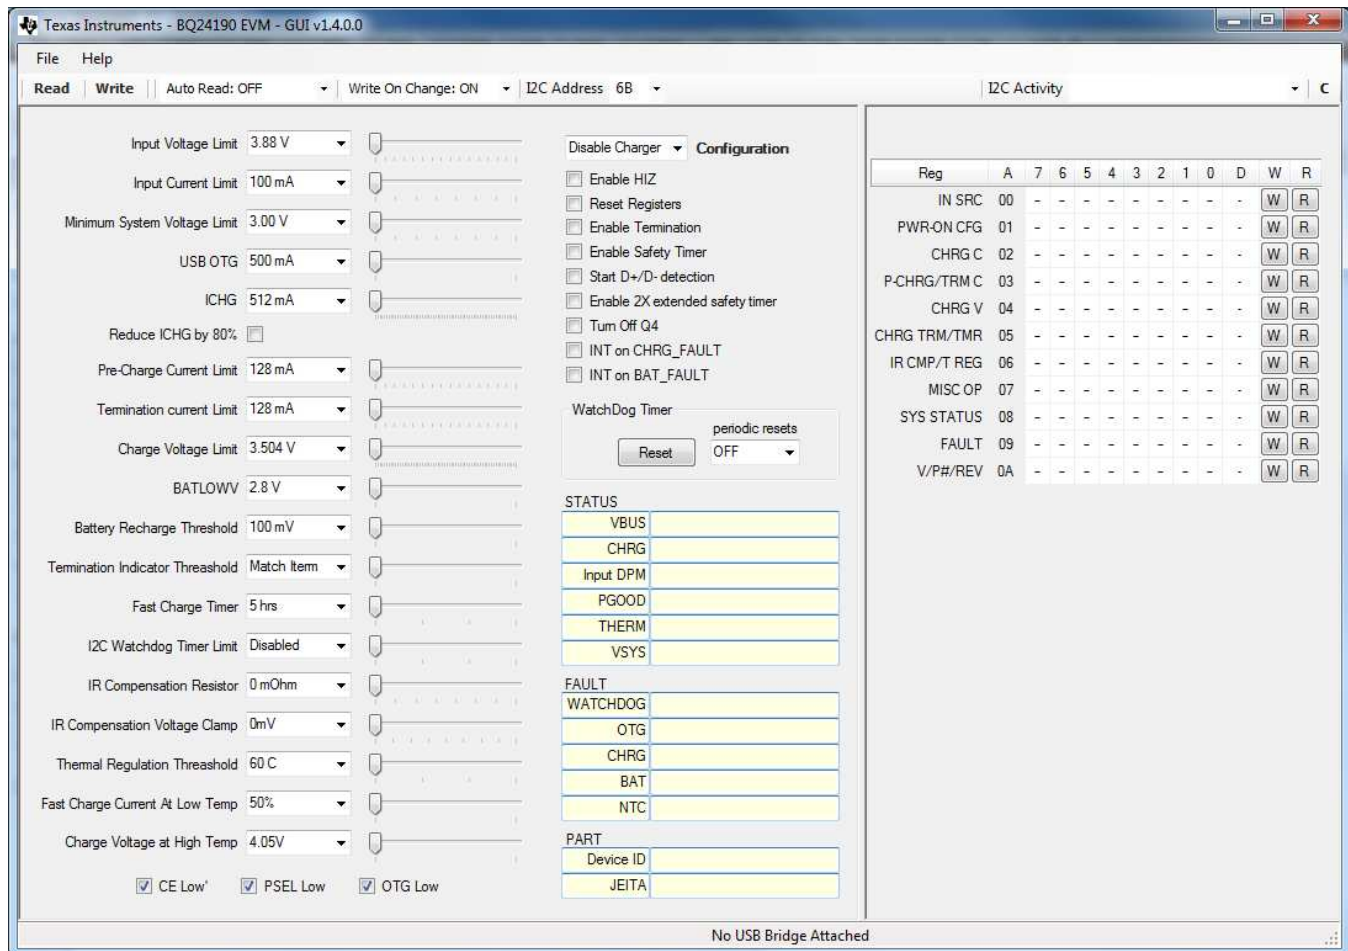

Figure 3. Main Window of the bq2419x Evaluation Software for bq2419x/L
8. Turn on the computer. Launch the bq2419xEVM evaluation software. The main window of the software is shown in Figure 3.